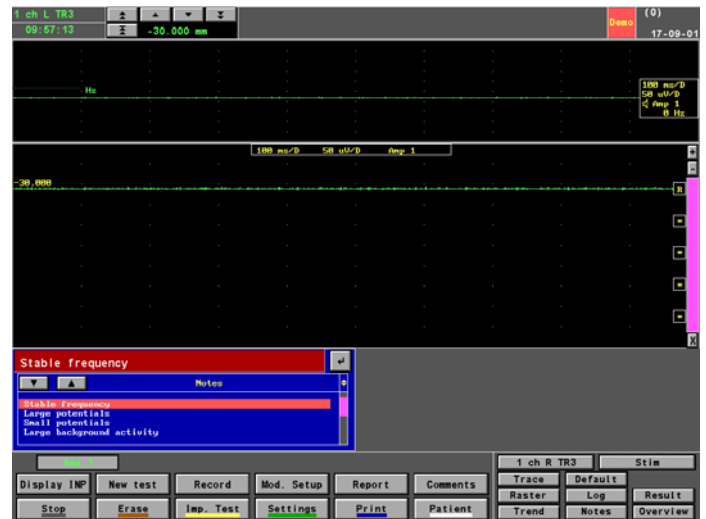

Figure 14 The Edit Box.
- Move the pointer to the wanted note, for example "Stable frequency": click on it to select it, and the note will be shown in the edit box just above the Notes Window, see Figure 14 below.